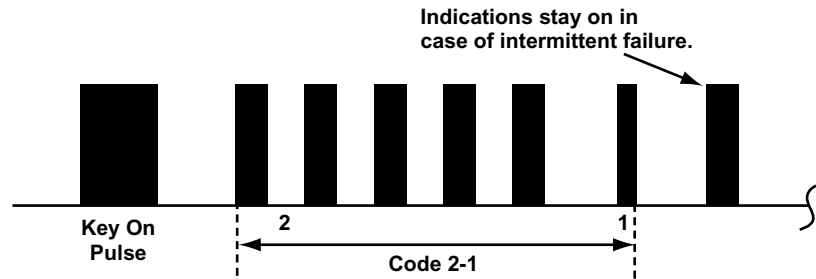

Figure 8-39 Honda ABS Code Type 06 - Intermittent Failure, SRS indicator blinks like this
- Type 06 with an intermittent failure, see Figure 8-39 and Table 8-14 on page 83